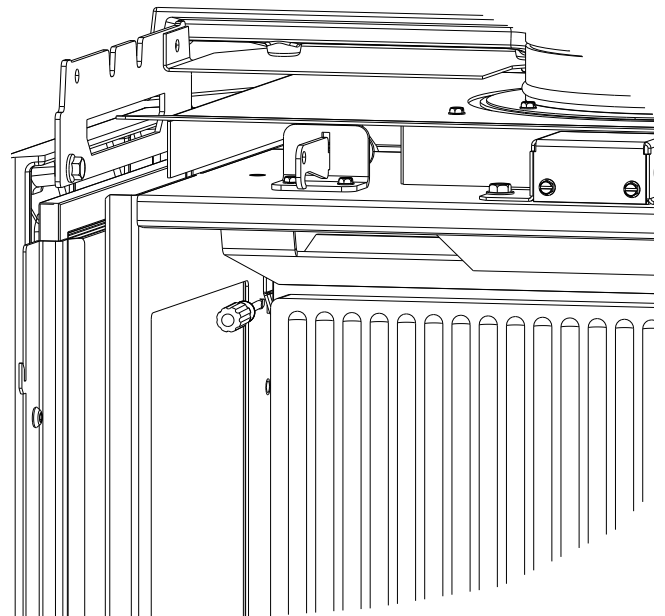

Figure 10.5. Bend both tabs fully to retain Panel.
3. Insert the screwdriver underneath the tab previously bent and twist to bend the tab against the panel. Repeat this step on the other side and bend the tabs equally so the panel is centered and retained in the firebox. See fig 10.5.